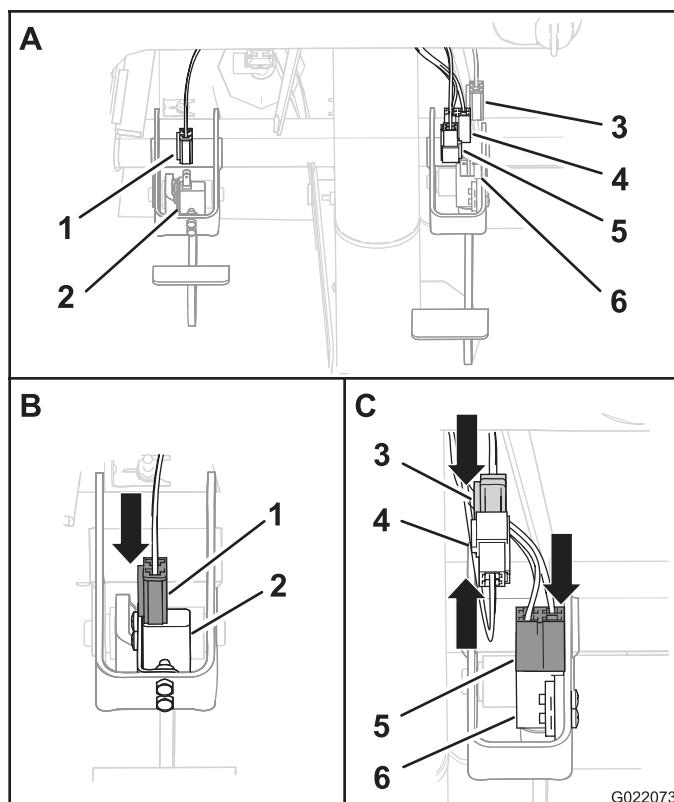

Figure 12
2. Connect the 2-socket connector to the clutch switch (Figure 12).
- A. Connect the 4-socket connector to the brake switch (Figure 12).
- B. Connect the 2-pin connector of the interrupter wiring harness to the 2-socket connector of the machine harness (Figure 12).